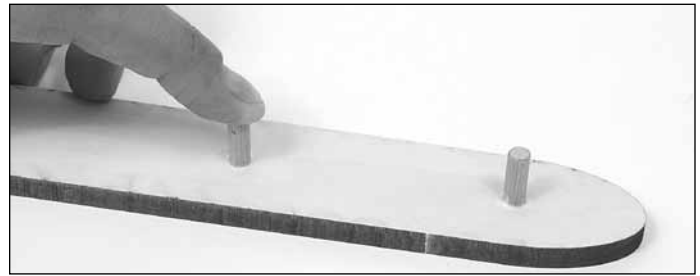

Figure 4
2. Lay one Part B flat on the work surface. On one end are two holes. Glue two 3/4" dowels into these holes so the dowel ends are flush with the side of Part B facing the work surface (Figure 4).